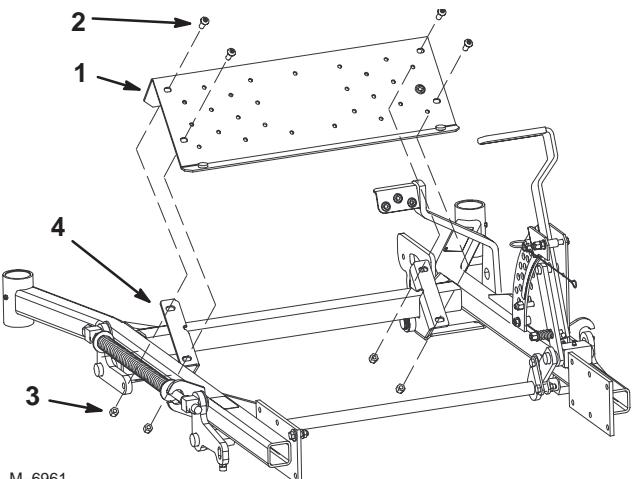

Figure 4
3. Raise the foot pan and then remove the footrest from the machine (Fig. 4).
5. Install the footrest onto the machine and lower the footpan (Fig. 4).